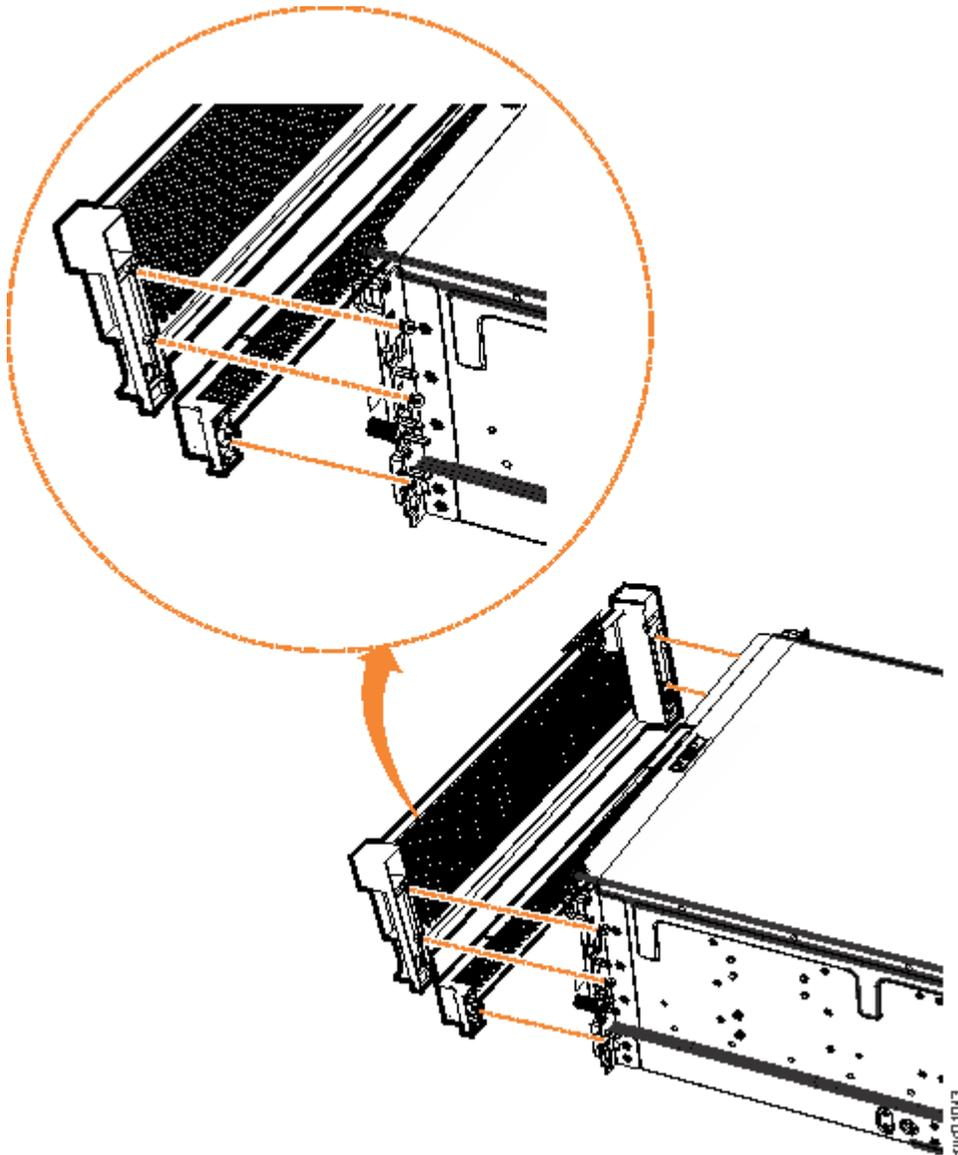

Figure 96. Remove fascia components from the expansion enclosure
2. Remove the front fascia by removing the two screws that attach the fascia to the flange on each side of the chassis, as shown in Figure 96 on page 86.
3. Gently pull on each side of the PSU fascia to remove it from the chassis, as shown in Figure 96 on page 86. The PSU fascia disengages from the slot and pin that connect it to each side of the chassis.